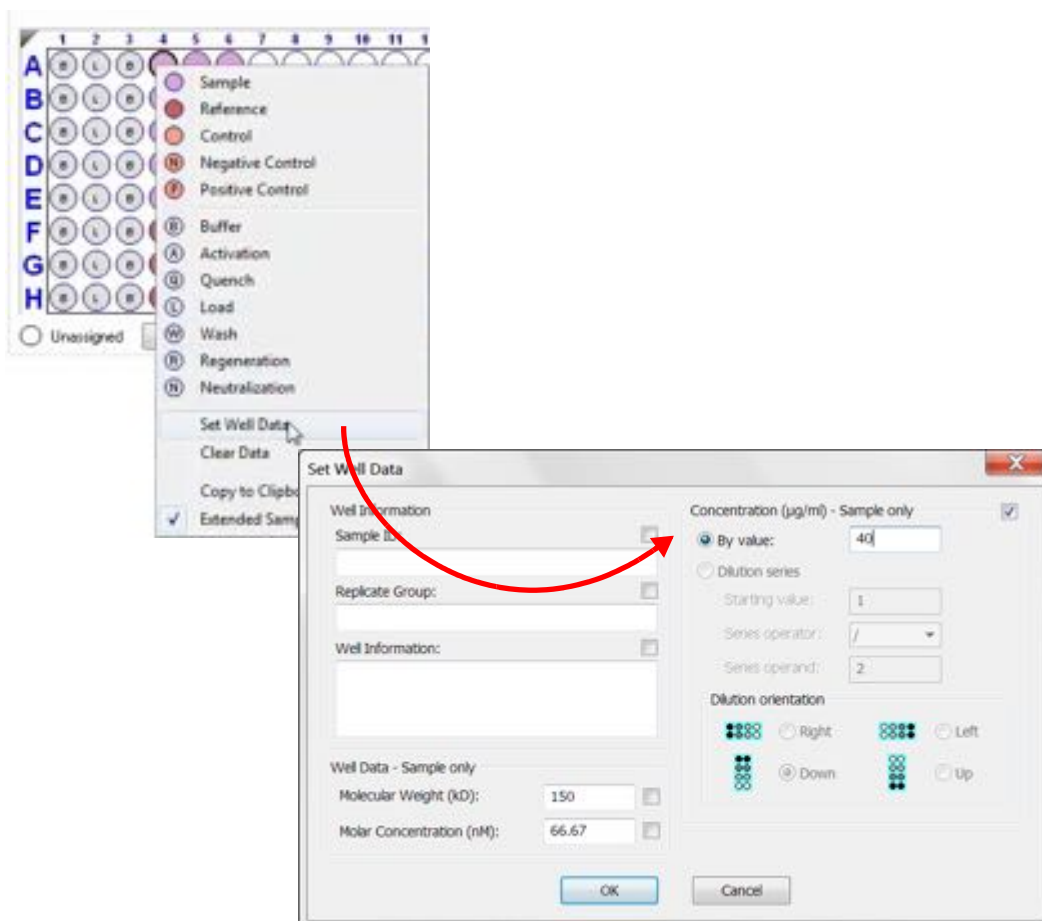

Figure 8-7: Sample Plate Map—Assigning Sample Concentrations by Value
1. In the **Sample Plate Map**, select the desired wells, right-click and select **Set Well Data**. The **Set Well Data** dialog box displays (see Figure 8-7).